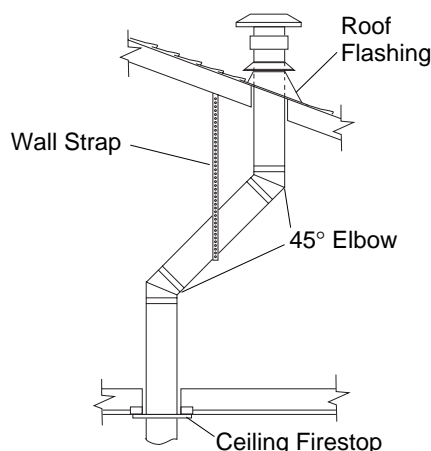

Figure 30 - Offset with Wall Strap and 45° Elbows
- Determine the route your vertical venting will take. If ceiling joists, roof rafters, or other framing will obstruct the venting system, consider an offset (see Figure 30) to avoid cutting loadbearing members. *Note:* Pay special attention to these installation instructions for required clearances (air space) to combustibles when passing through ceilings, walls, roofs, enclosures, attic rafters, etc. Do not pack air spaces with insulation. Also note maximum vertical rise of the venting system and any maximum horizontal offset limitations. Offsets must fall within the parameters shown in Figure 18 on page 9.
Note: If an offset is needed to avoid obstructions, you must support the vent pipe every 3 feet. Use wall straps for this purpose (see Figure 30, page 14). Whenever possible, use 45° elbows instead of 90° elbows. The 45° elbow offers less restriction to the flow of the flue gases and intake air.
- Place the flashing over the pipe section(s) extending through the roof. Secure the base of the flashing to the roof and framing with roofing nails. Be sure roofing material overlaps the top edge of the flashing as shown in Figure 30, page 14. There must be a 1" clearance from the vent pipe to combustible materials.